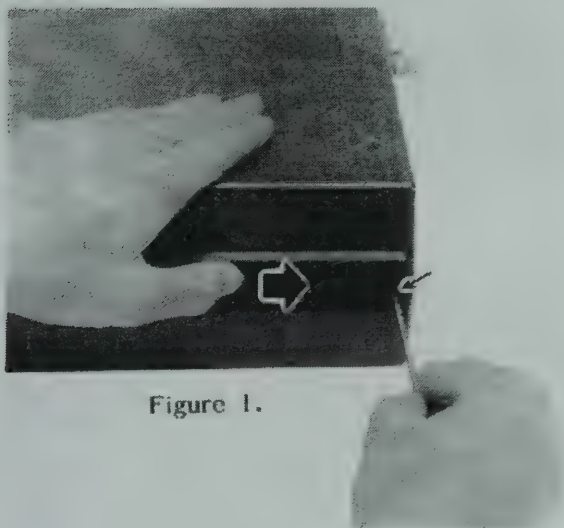

Figure 1.
- (1) Switch off the transceiver and disconnect all cables from the rear panel.
- (2) Referring to Figure 1 below, use a sharp instrument (such as a small screwdriver) to depress the catch pin in the strip on the side of the set (near the rear), while sliding the strip towards the rear with